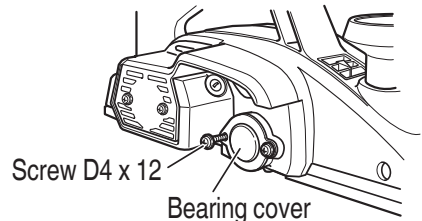

Fig. 20
- (1) Remove only one screw D4 x 12 on the left side as shown in **Fig. 20**.